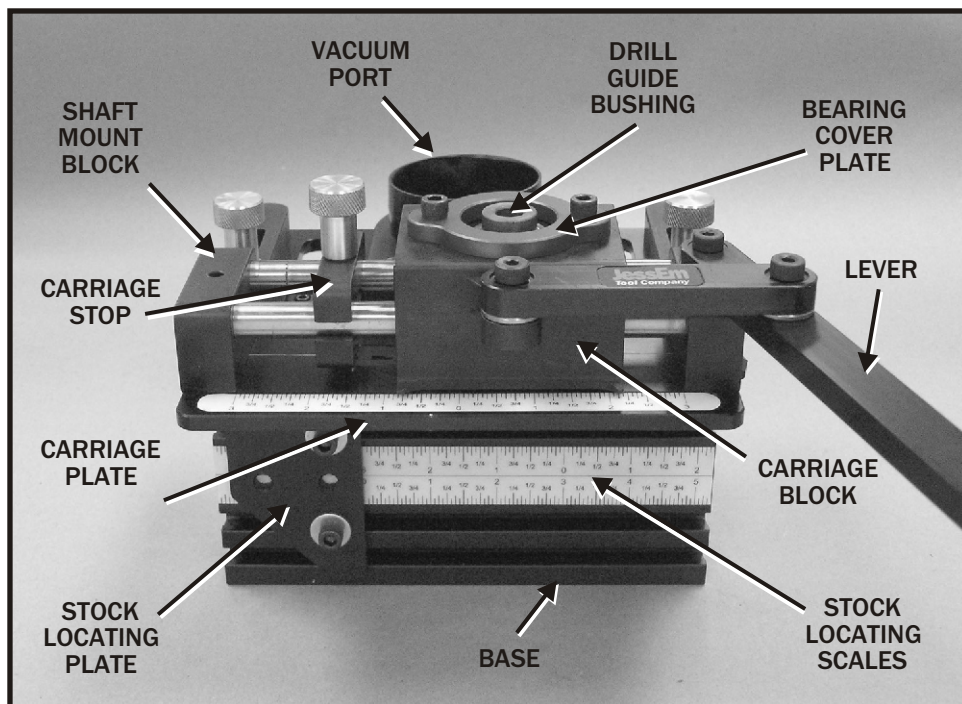

FIG. 3
1. Slide the stop collar onto the drill bit and using the 1/8" hex wrench, tighten the set screw to secure the stop collar in position. Because of the length of the drill guide bushing, thickness of carriage plate, etc., you will need to add 2.4 inches to the desired depth of the mortise you are cutting (Fig. 3).
2. Insert the drill bit into the drill chuck and tighten the bit securely (Fig. 3).